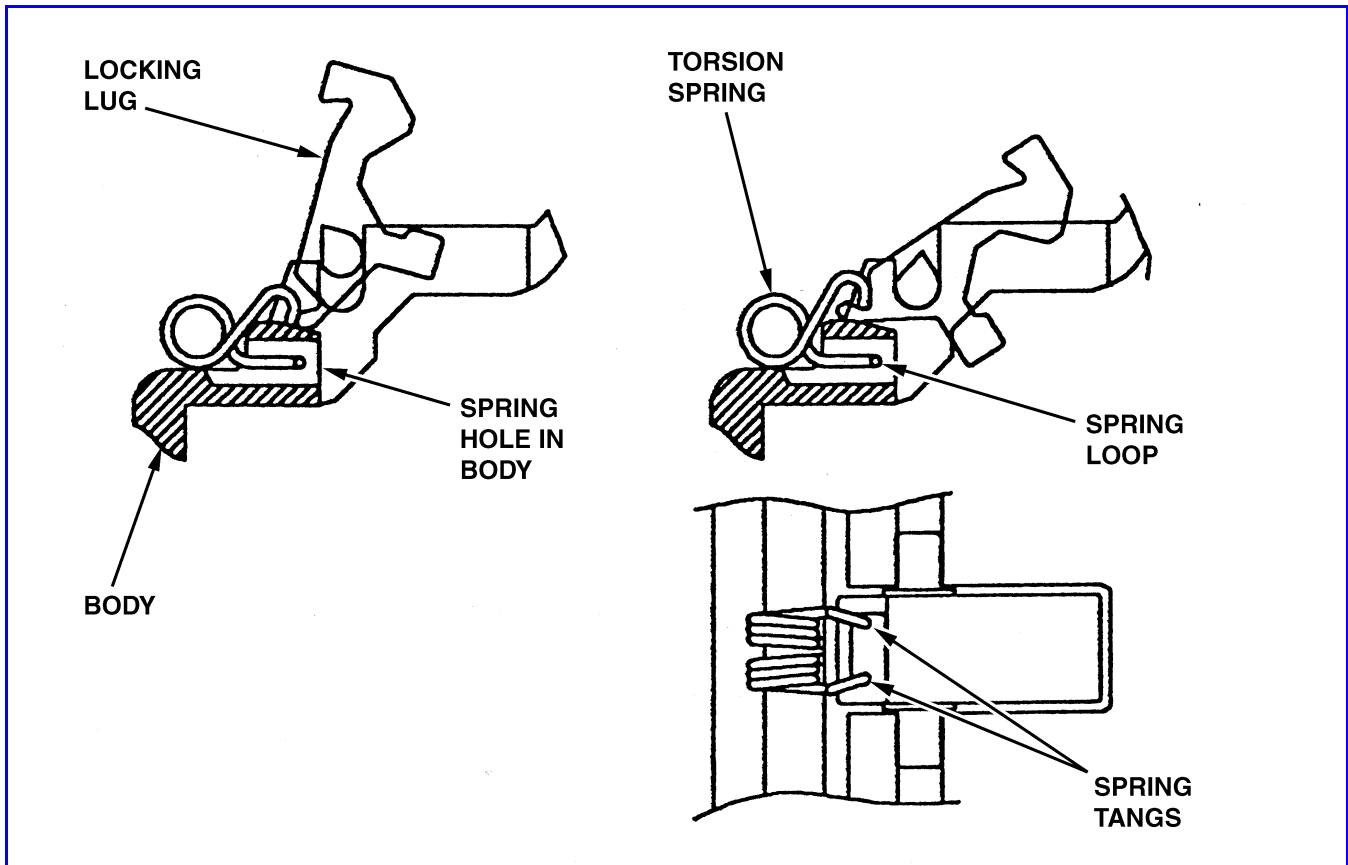

Figure 2. Installing the Springs and the Locking Lugs
Damaged or worn seat (6, IPL Figure 2)	Replace the seat.
Damaged or wear on seat face of poppet (5, IPL Figure 2)	Replace the poppet.
Damaged or worn nose seal (8, IPL Figure 2)	Replace the nose seal.
B. Assembling the Coupler Section (Refer to IPL Figure 2)
- 1) If the bushing (19) was removed, thread a new bushing onto the $\frac{3}{8}$ -16UNC, 6½-inch long bolt you used to remove the old bushing. Thread the bushing onto the bolt until it is flush with the end of the bolt. Press the bushing into the bushing bore of the body (30), until it bottoms out.
- 2) If the guard (26) was removed from the shroud (25), use tire levers to install a new guard on the shroud.
- 3) Refer to Figure 2 and install the springs (28) and the locking lugs (29) in the body (30) as follows:
IPL Figure 2. Hydrant Coupler